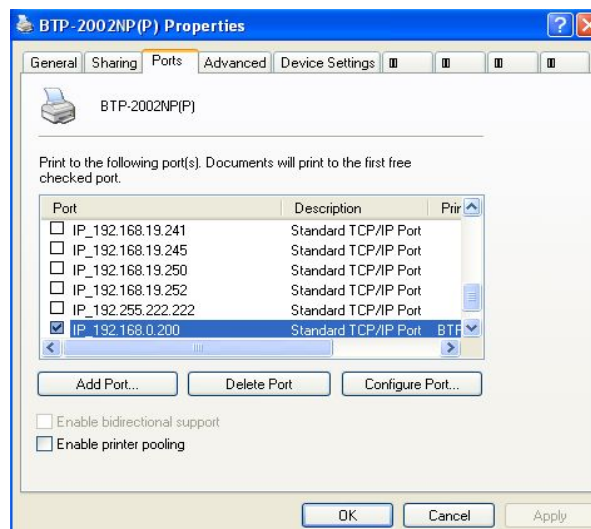

Figure 5.3.8
8) Refer to Figure 5.3.8, select the newly added TCP/IP port, click “Application” and then click “OK” button to finish the configuration of TCP/IP port.